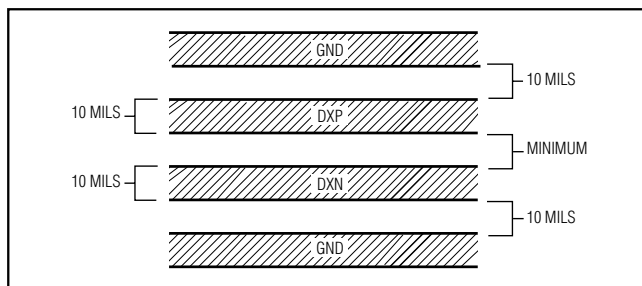

Figure 4. Recommended DXP-DXN PC Traces
- 3) Route the DXP and DXN traces in parallel and in close proximity to each other, away from any higher voltage traces, such as 12VDC. Leakage currents from PC board contamination must be dealt with carefully since a 20M Ω leakage path from DXP to ground causes about 1°C error. If high-voltage traces are unavoidable, connect guard traces to GND on either side of the DXP-DXN traces (Figure 4).
- 6) Use wide traces. Narrow traces are more inductive and tend to pick up radiated noise. The 10mil widths and spacing recommended in Figure 4 are not absolutely necessary, as they offer only a minor improvement in leakage and noise over narrow traces. Use wider traces when practical.